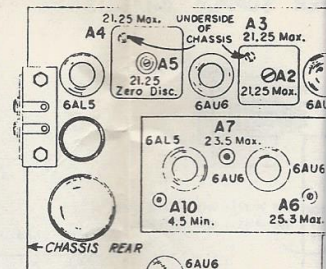

Figure 27. Alignment
†Locations of A1, A6, and A8 were different in early production sets. See figures 27, 28.
- Refer to figures 27, 28 and 29 for alignment adjustment and test point locations.
** See figures 27 and 28 for alternate locations.